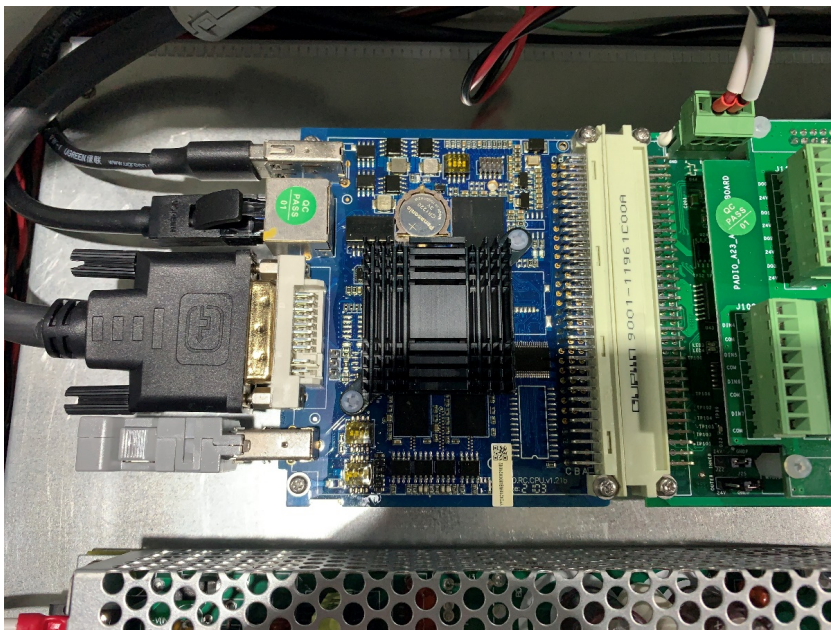

Figure 5-6 : Battery installation completed
3. Put the electromagnetic positive pole of the 3V button upward, insert one end into the position where the battery slot has a buckle, and press down gently until the battery slot card can catch the battery, as shown in **Figure 5-6** .